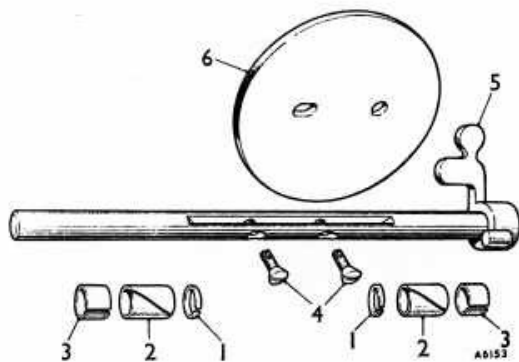
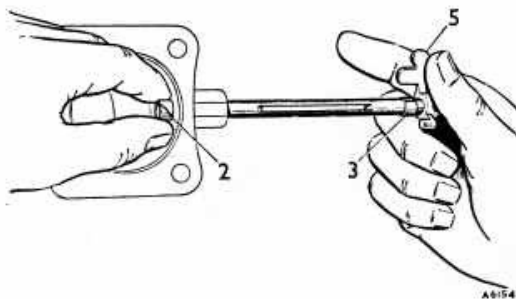
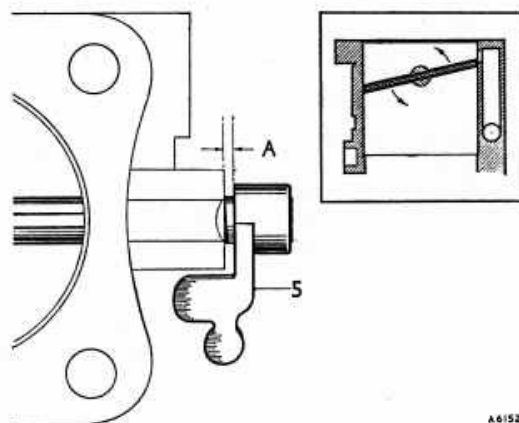

Fig. 1. The component parts of the throttle spindle assembly
Fig. 2. Inserting the throttle spindle into the P.T.F.E. bush
Fig. 4. Setting the clearance between the stop lever and carburetter body before tightening the disc screws. (Inset) the correct throttle disc position
1. Slide one of the large spring clips (3) (Fig. 1) along the throttle spindle until it is approximately $\frac{1}{2}$ in. (6 mm.) from the throttle stop (5) (Fig. 2). Insert a P.T.F.E. bush (2) into each spindle aperture from inside the carburetter bore and then feed the throttle spindle through from the throttle stop side, rotating the spindle gently and keeping the bush within the body (see Fig. 2).
3. Rotate the throttle spindle to the fully open position and insert the throttle disc (6) (Fig. 1), ensuring that the chamfered edges slope in the correct direction (see Fig. 4). Close the throttle and screw in the two disc securing screws (4) (Fig. 1) just tight enough to prevent the disc from moving.
4. Centralize the disc by snapping the throttle shut several times, then, allowing $\cdot 015$ to $\cdot 030$ in. ($\cdot 4$ to $\cdot 8$ mm.) clearance between the stop lever and body (A) (Fig. 4), fully tighten the disc screws and spread their ends. Finally check that the gaps in the inner spring clips (1) are not likely to foul the throttle disc and that the outer spring clips (3) are hard against the P.T.F.E. bushes.